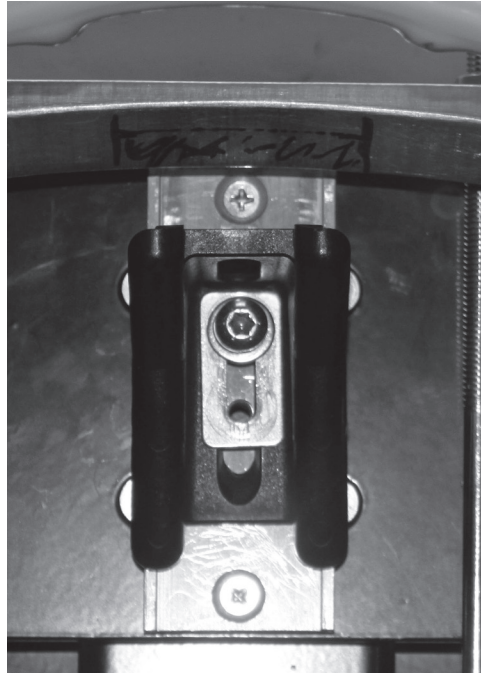
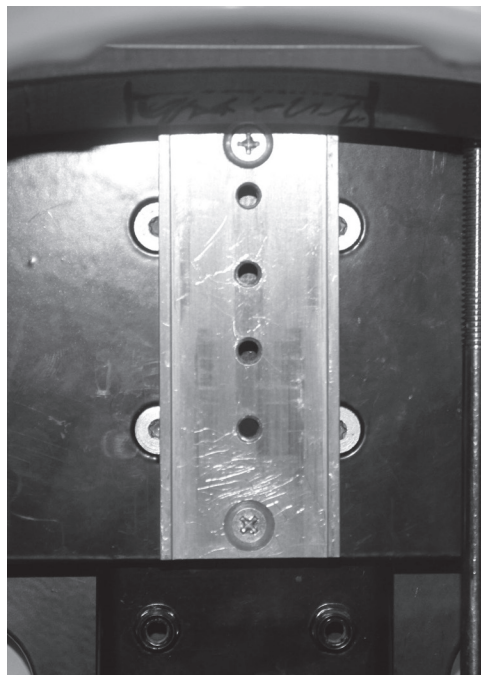

Figure 2
Figure 3
5. If you need to adjust the Upper Bracket Assembly to a different position, remove the T-30 torx head screw holding the Cylinder Locator Bumper (*see Figure 2, below*) and set the Cylinder Locator Bumper aside. Remove the (2) #2 Phillips head screws holding the Bumper Spacer Locator (*see Figure 3, below*), and set the Bumper Spacer Locator aside.